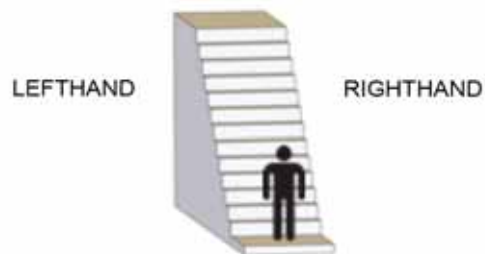

Figure 33-1
1. Determine if the lift will be installed on the right or left side of the staircase. [Figure 33-1]